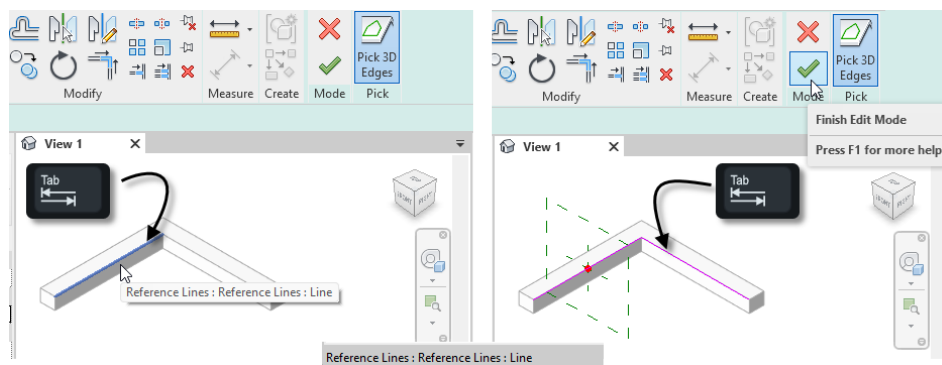

Figure 59—Using Pick Path, pick both reference lines
- ⇒ Use the TAB key to make sure that you are picking the reference line, then click (see the left side of Figure 59).
- ⇒ Again using the TAB key, click the other reference line and then click the Finish Edit Mode button (see the right side of Figure 59).